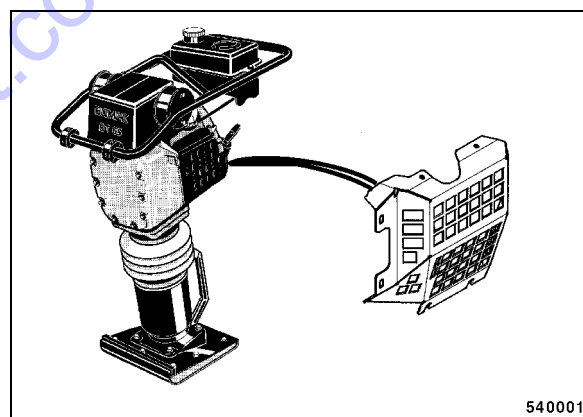

Fig. 58
- Remove the protection grid on the left hand side of the engine (Fig. 58).